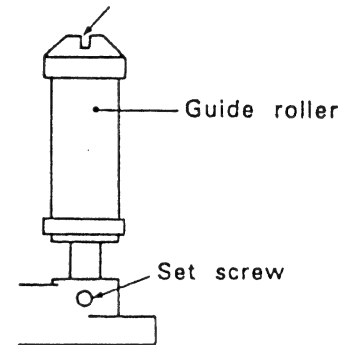

Fig.12 Guide roller height adjustment
- Slightly loosen set screws of the supply and take-up guide rollers as shown in Fig.12.